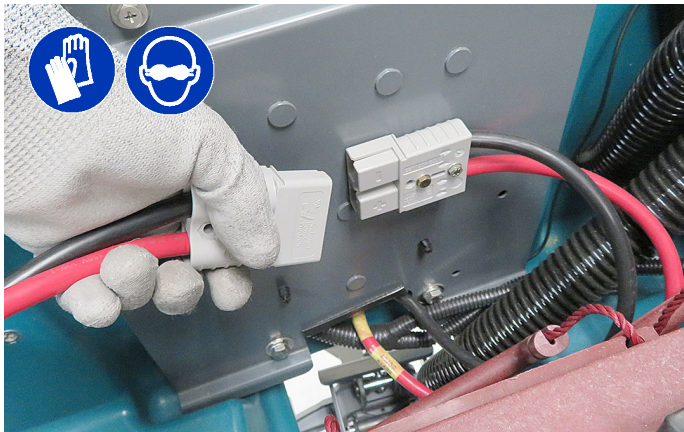

Fig. 1
3. Disconnect battery cable connector from battery pack (Figure 1).